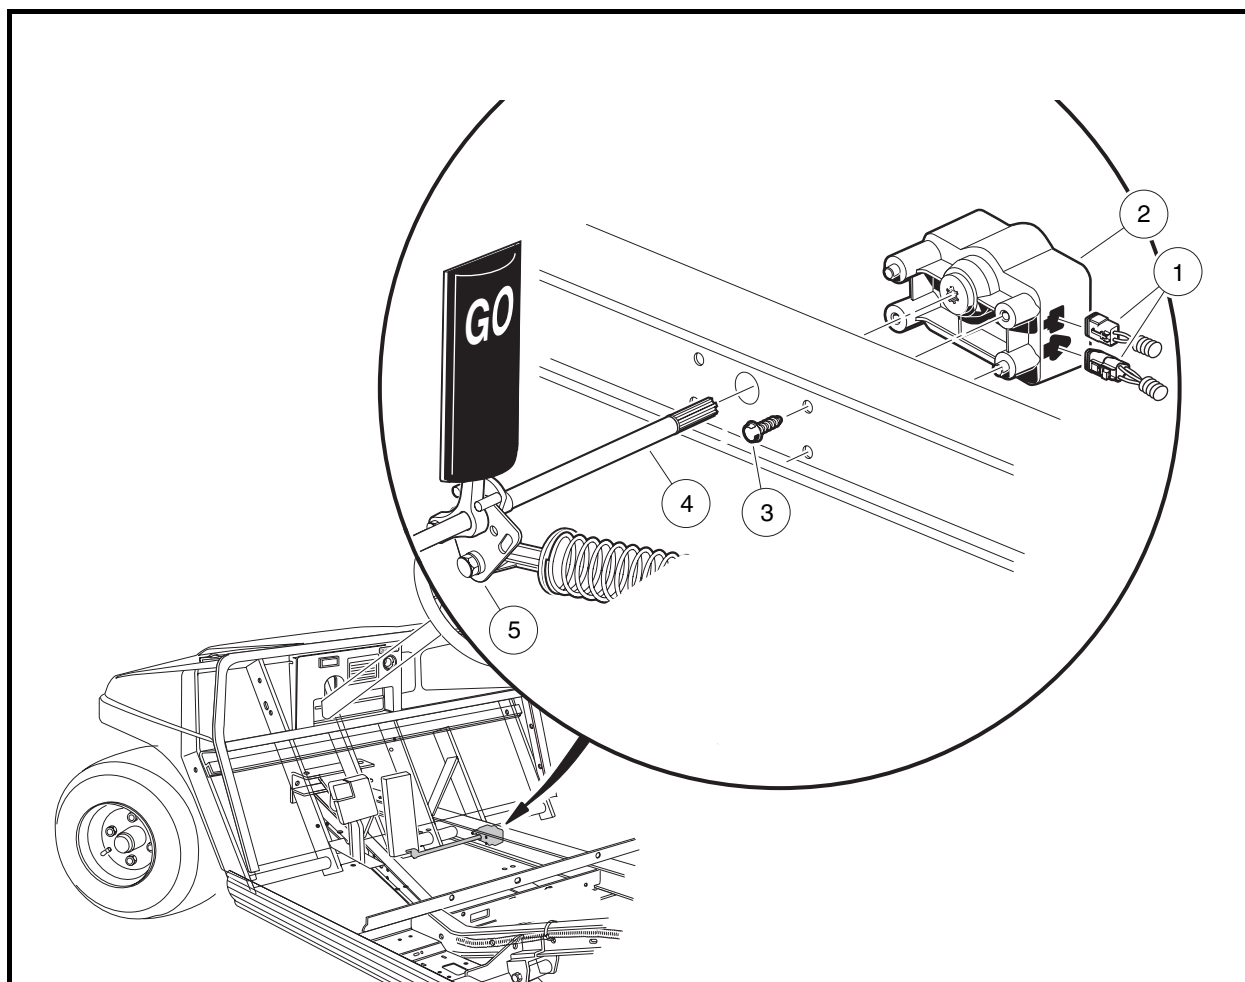
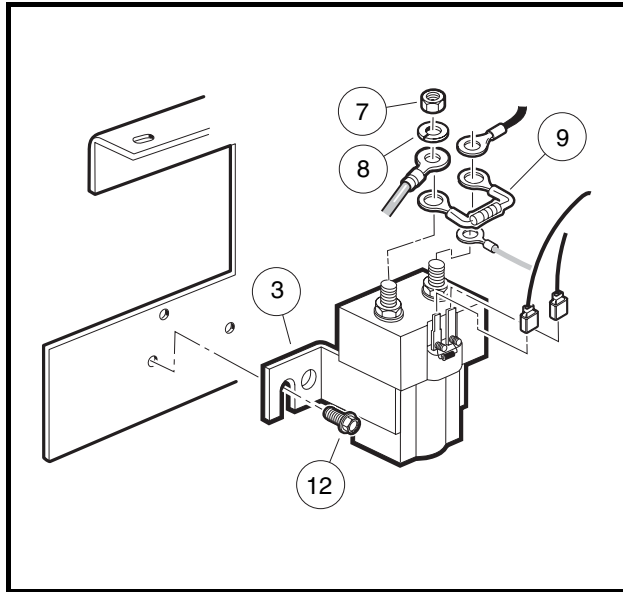

Figure 13-6 Motor Controller Output Regulator (MCOR) Mounting
Figure 13-7 Screw-Mounted Solenoid
4. Screw-mounted solenoid (**Figure 13-6, Page 13-9**).
- 4.2. Lift the solenoid (3) up and off of the component mounting plate.
5. Slot-mounted solenoid (**Figure 13-7, Page 13-9**).
1. Mount solenoid onto component mounting plate with screws (12) or by engaging slot (**Figure 13-6, Page 13-9**) (**Figure 13-7, Page 13-9**).
2. Tighten screws (12) to 60 in-lb (6.8 N·m).
3. Using the wiring diagram, install the wires, resistor (9), washers (8), and nuts (7) onto the large mounting posts. Tighten nuts to 77 in-lb (8.7 N·m). **See Wiring Diagrams, Section 11, Page 11-2.**
4. Install the blue/white and light blue wires onto the small terminals of the solenoid (**Figure 13-6, Page 13-9**).